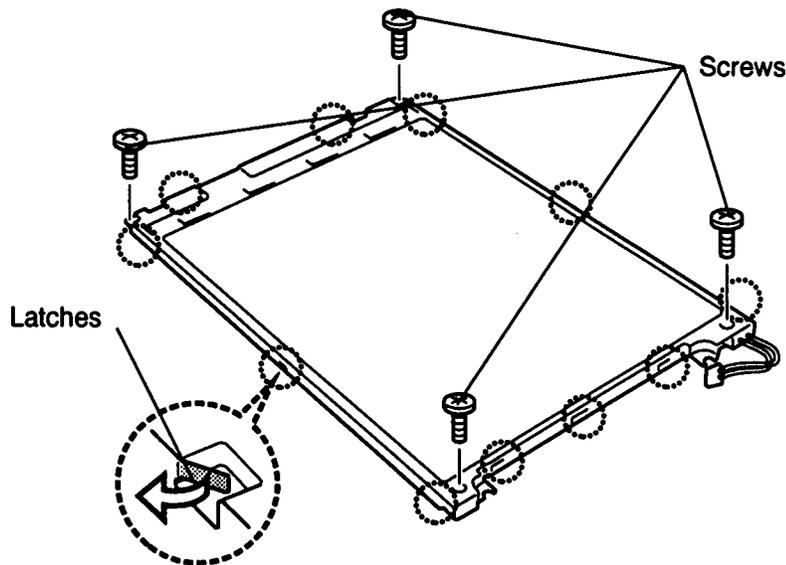

Figure 4-25 Unbending the color LCD module latches
To remove the T2150CDS FL, follow the steps below. Refer to figures 4-25 through 4-28.
3. Release **11 latches** securing the **LCD module** to its frame (figure 4-25).
4. Turn the **LCD module** over and remove **four screws** (figure 4-25).
To install the T2150CDS's FL unit, follow the steps below and refer to figures 4-25 to 4-28.